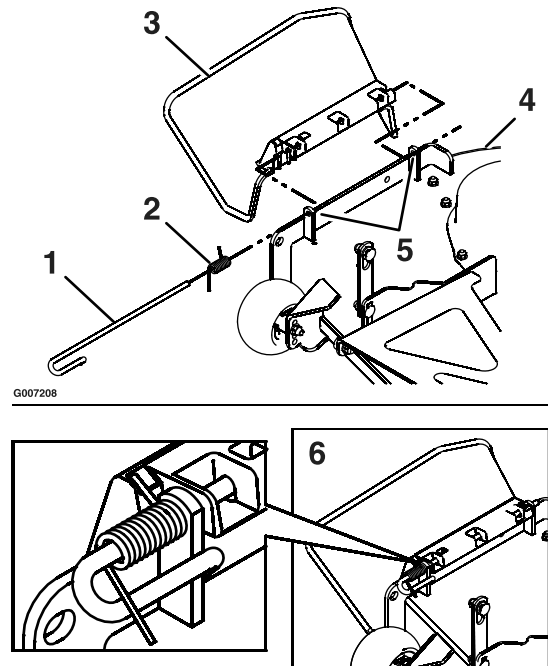

Figure 44
- Locate items shown in Figure 44.
- Orient the spring so that the short leg points towards the discharge deflector and the longer leg points towards the deck as shown in Figure 44. Place spring on rod and slide rod, straight end,
5. Make sure that the spring and rod are installed so that the rod is retained from sliding out by the front bracket and the spring holds the discharge deflector in the down position. Refer to (Figure 44) for proper orientation.